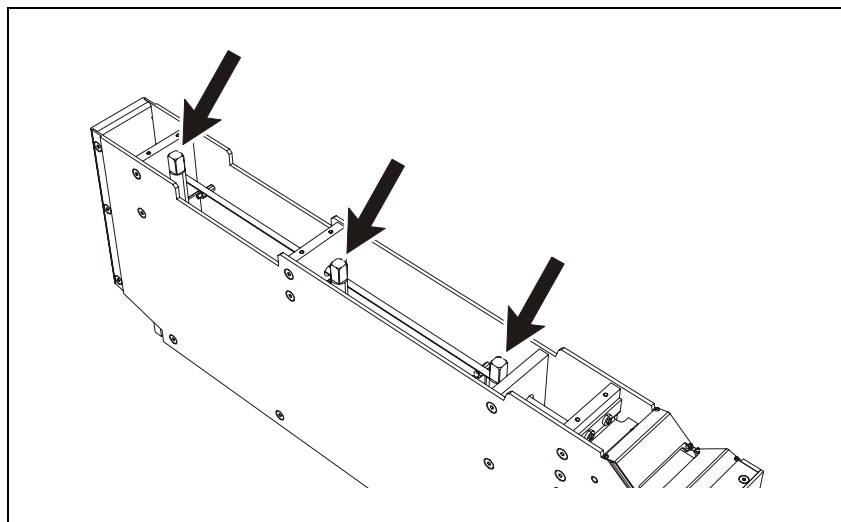

Figure 9-9. Loosen bars.
2. Loosen the three bars in the camera box with a 9 mm universal screw spanner. See Figure 9-9.